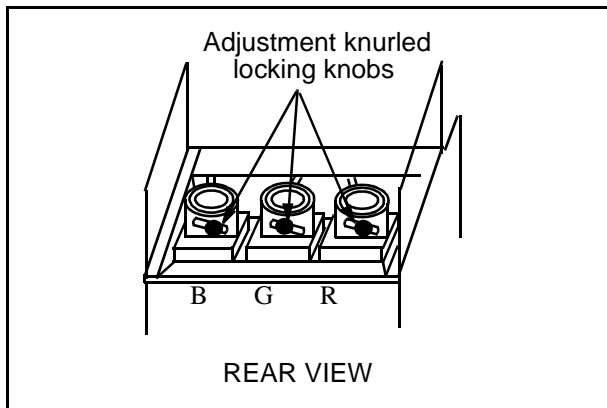

Figure 29. **Optical lens focus adjustment**
- Optical focus adjustment is located on the top of each CRT lens system. Loosen the adjustment knurled locking knob. (figure 29)